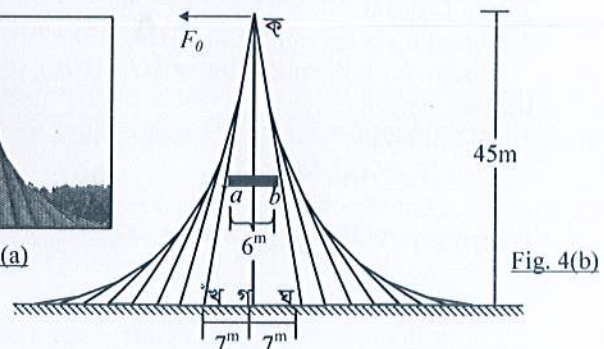

Fig. 4(b)
4. Fig. 4(a) shows *Jatiyo Smriti Shaudha* at Savar while Fig. 4(b) shows a simplified form of the structure.